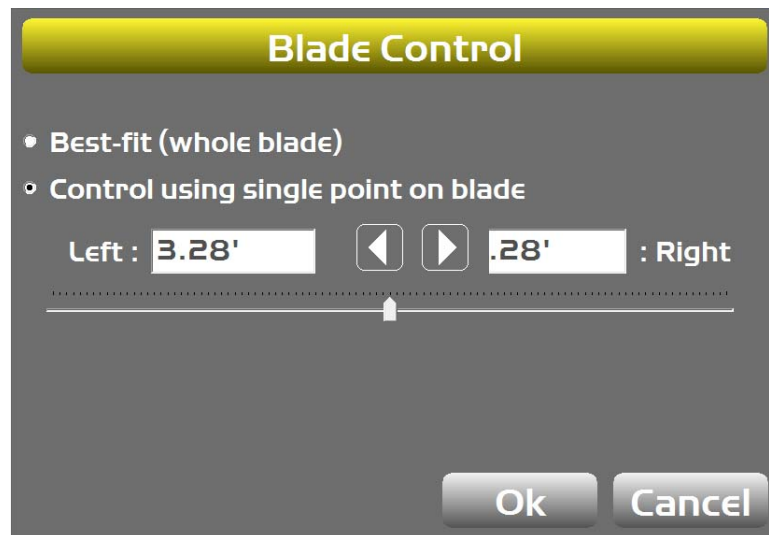

Figure 54: Blade Control Screen
1. Press the Power button on the display, then tap **Control ▶ Blade control**. The **Blade Control** screen appears (Figure 54).